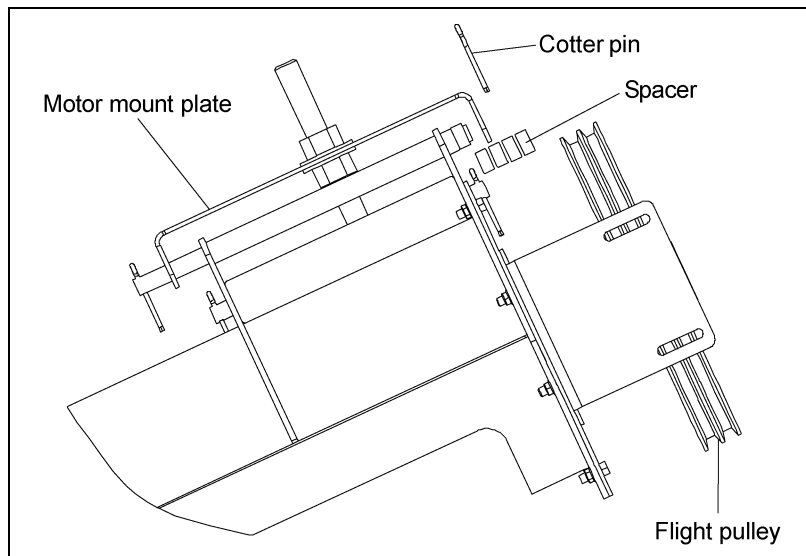

Figure 4J
2. Install pulley onto motor shaft making sure that it is aligned with the flight pulley. It may be necessary to move spacers to gain shaft alignment. (See Figure 4J.)